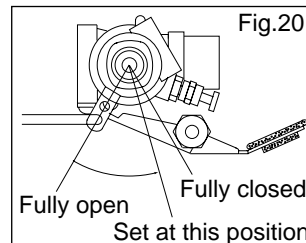

Fig.20
5. Set the throttle valve approximately 1/4 open from the fully closed position. (Fig.20).